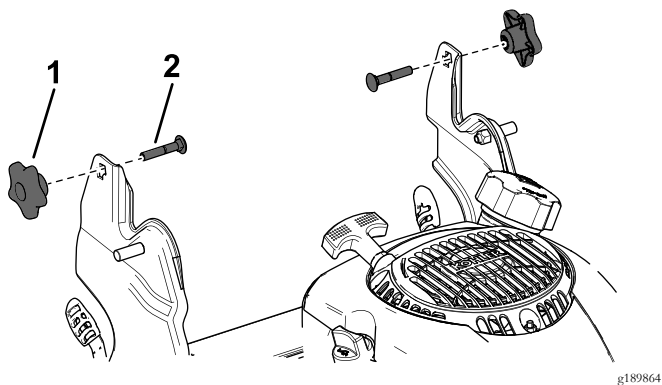

Figure 25
3. Insert the carriage bolt (with the bolt head toward the inside) through the handle bracket and the upper hole in the handle end. Ensure that the square edges of each carriage bolt fits into the upper or lower square hole in its related handle bracket (Figure 25).